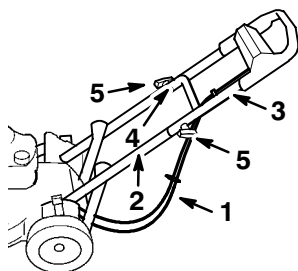

Figure 4
- Slide the upper handle section ends over the lower handle section so that the sections nest together (Fig. 4)
- Ensure that the cables are routed below and behind the lower handle section as illustrated in Figure 4.
- Secure the upper handle section to the lower handle section using two contoured handle bolts and two knobs (Fig. 4).